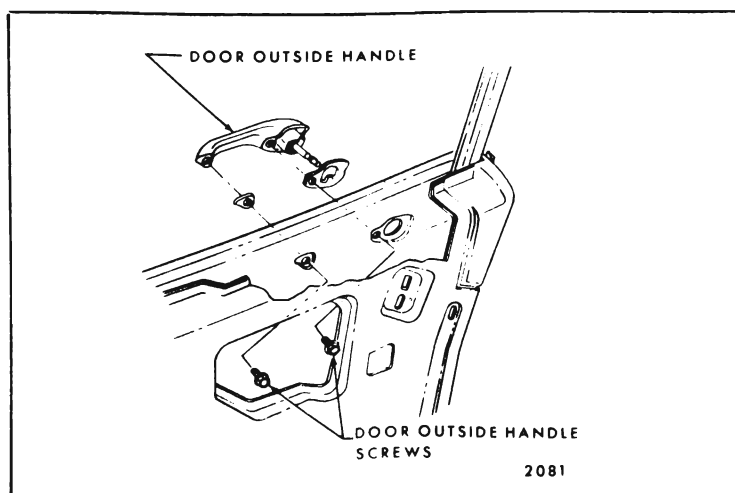

Fig. 7-29—Door Outside Handle Removal
1. Raise door window. Remove door trim assembly and detach upper rear corner of inner panel water deflector sufficiently to gain access to door outside handle attaching screws (Fig. 7-29).